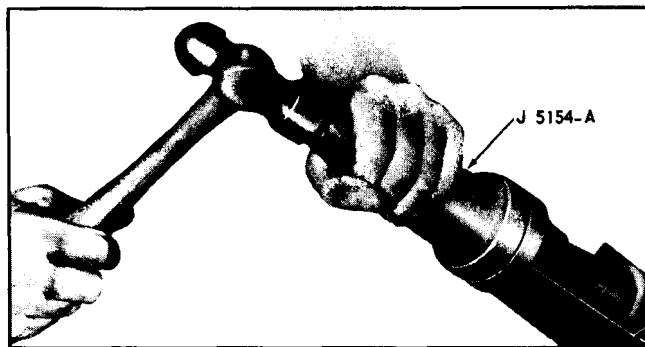

Fig. 7D-13 Installing Rear Extension Oil Seal
1. Disconnect control rods from shifter levers (Fig. 7D-9) and disconnect electrical lead to T.C.S. switch.
4. Remove case cover assembly from transmission case (Fig. 7D-14).